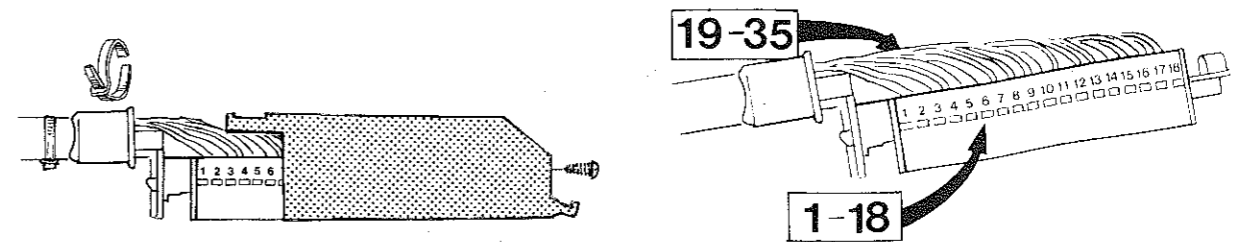

Fig. 9.24 Remove the multi-plug cover (left) for access to the numbered connectors (Sec 32)
- 3 Measure the resistance between earth and terminals 10, 20, 32 and 34 (Fig. 9.24). It should be zero in each case. If not, check the earthing point at the right-hand tail light. If terminal 32 is not earthed, try fitting a new valve relay to the control unit.